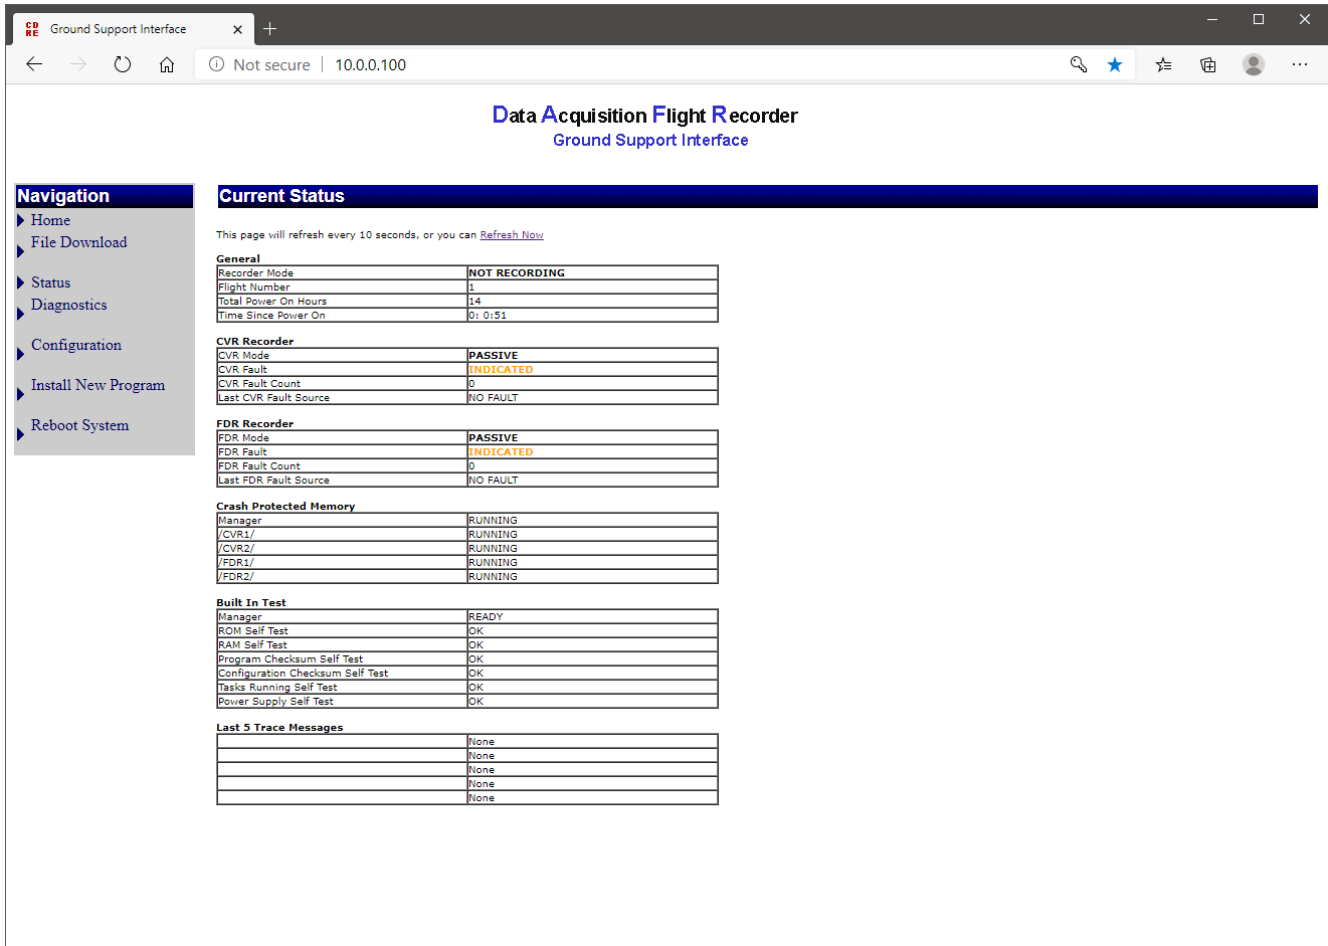

Figure 16 DAFR GSI Status Page
- (5) Allow one minute for DAFR operation to stabilise and then verify that the current reading on the DMM is in the range 250mA to 350mA.
- (6) Open Internet Explorer on the PC using the icon on the desktop.
- (7) Navigate to <http://10.0.0.100>.
- (8) When the DAFR GSI Home Page is displayed, select the **Status** option from the **Navigation** menu on the left. The Status page will now be displayed. An example of the Status page is shown in *Figure 16*.